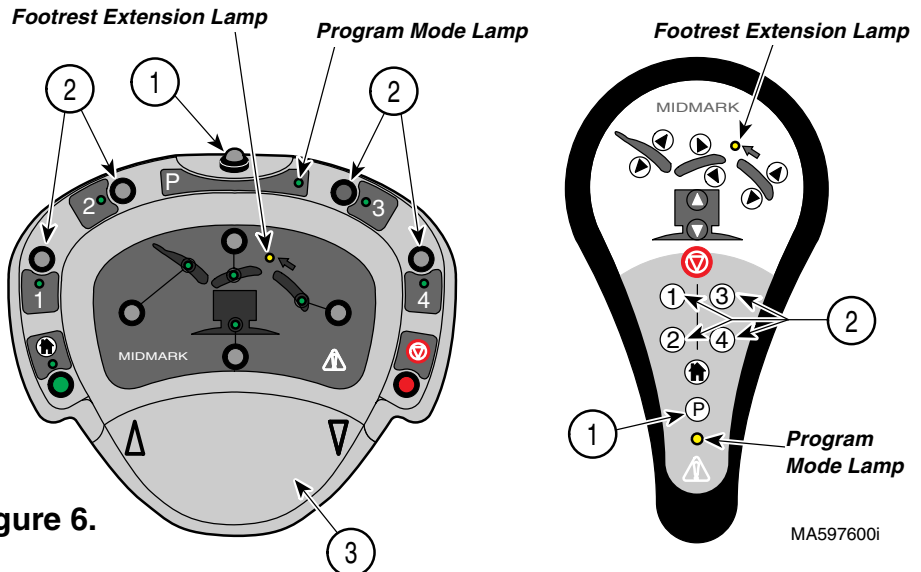

Figure 6.
2. Press Program button (1, Figure 6); *[Program Mode lamp will illuminate]*
2. Press and hold Program button (1, Figure 6) while plugging in power cord.